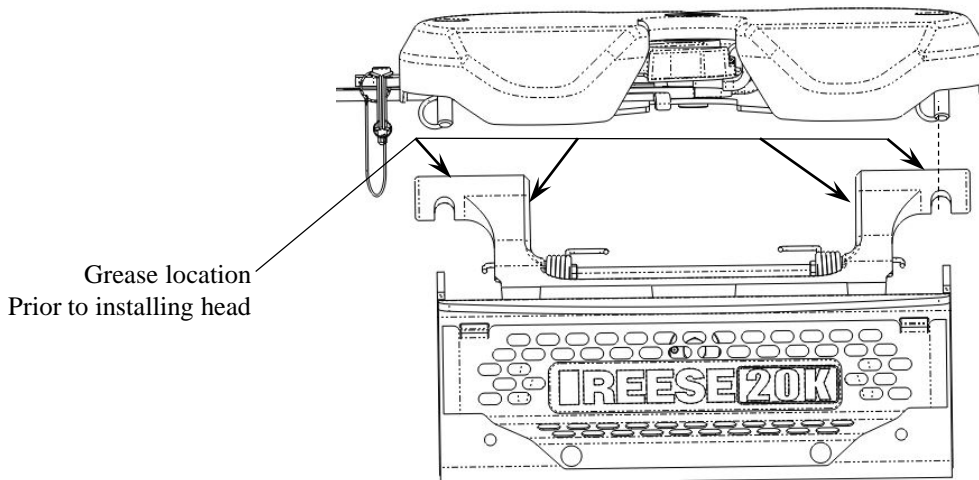

FIG. 8
- C. Apply grease via the grease fitting on the top of the unit. (Grease needle required, see fig. 8) Head comes pre-greased